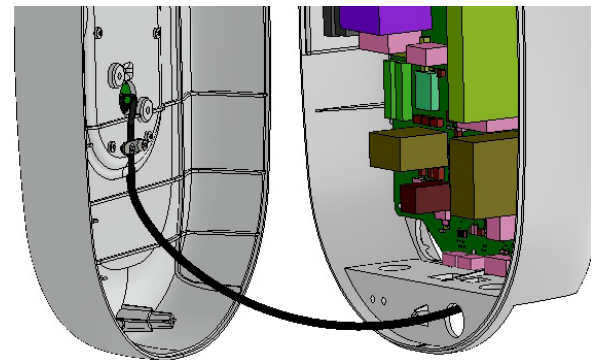

Figure 28
- Lift the base unit front cover slowly and disconnect the Console cable from J5 connector of Console extension board-internal located on the power board as shown in Figure 28.